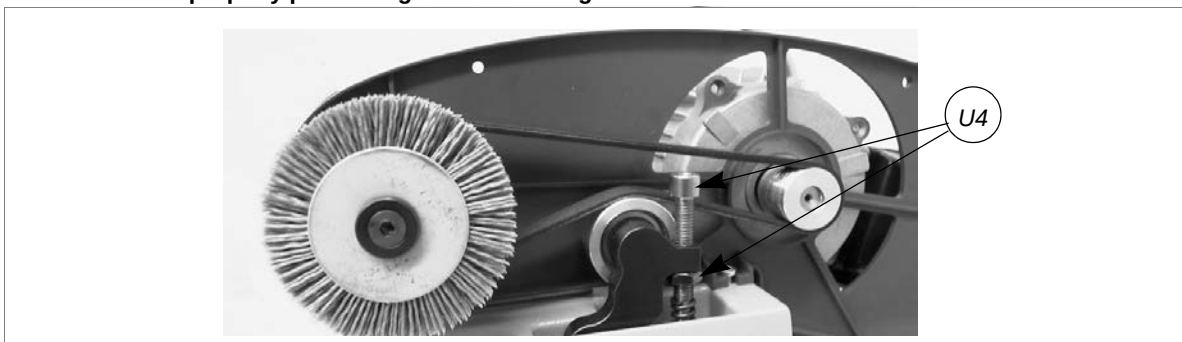

Fig. 44
- screw the screw/nut (U4) until the belt is properly tightened (fig.44).
- 11) Loosen the grub screw/nut (U4) (fig.44) in order to lower the belt tightening pulley and pull the belt off the motor pulley.
- 17) Tighten the grub screw/nut (U4) until the belt is properly tightened (fig. 44, page 30).